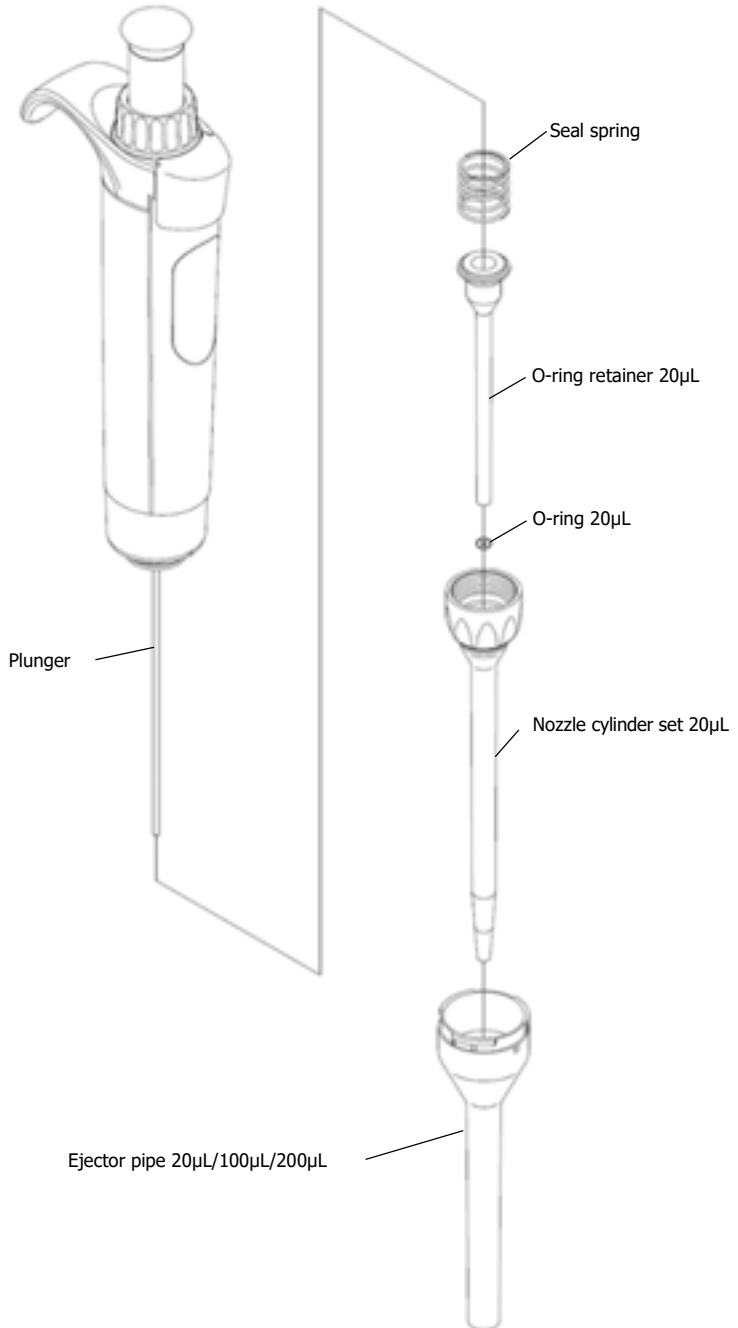

Fig. 4-10
- 20 μL , 100 μL , 200 μL , 1000 μL (Fig. 4-10 to 4-13)